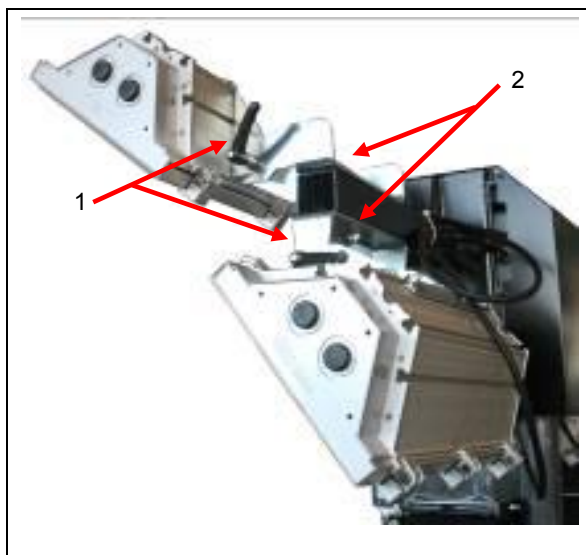

Figure 5.1 – Adjusting the lights
❶ Position the lights, tilting them manually and loosening the tightening levers (fig. 5.1, ref. 1) on the light support bracket.
❷ Turn the lights according to the type of lighting desired, by loosening the light support bracket nut (fig. 5.1, ref. 2).